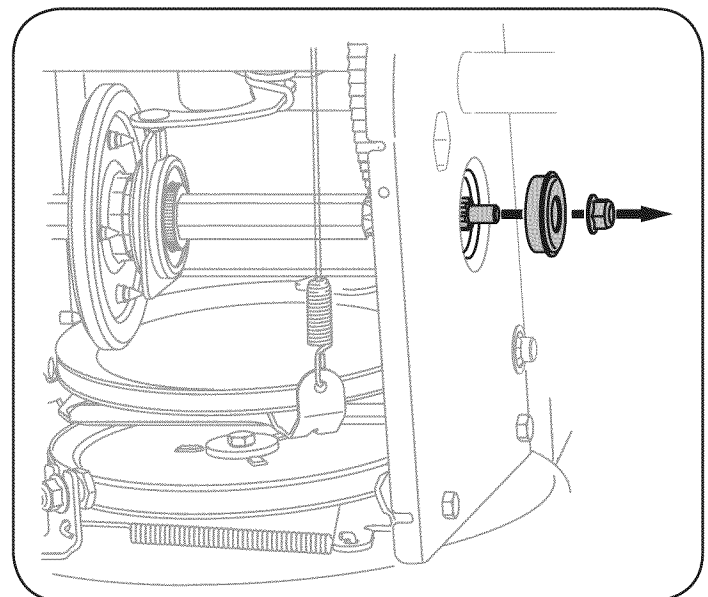

Figure 30
6. Carefully remove the hex nut and washer which secures the hex shaft to the snow thrower frame and lightly tap the shaft's end to dislodge the ball bearing from the right side of the frame. See Figure 30.